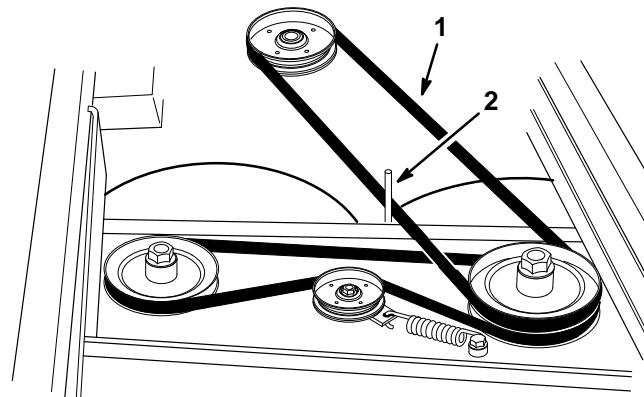

Figure 8
8. Check the position of the belt guide. The guide should be positioned about 1/8" (3 mm) away from the belt. Adjust the belt guide as necessary (Fig. 8).